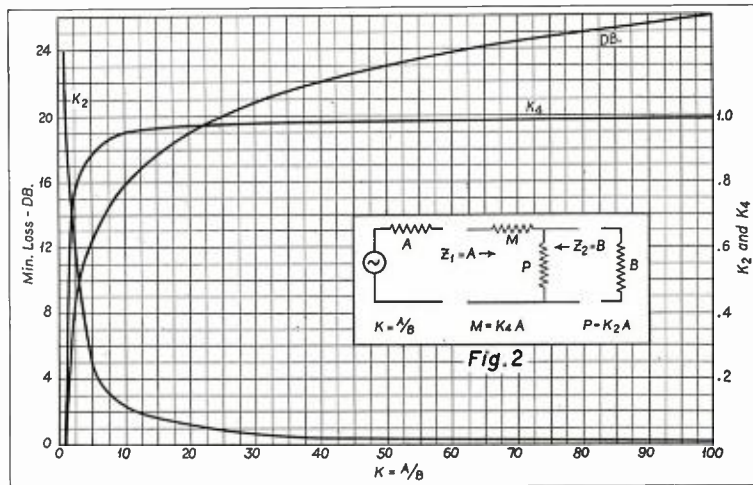

Fig. 2
Needless to say the case of interest is that for the pad of minimum loss, so that λ is fixed by this condition for any value of K, as shown in formula (4). It immediately follows that curves for K₁, K₂, K₃ and K₄ may be plotted as a function of K, or the ratio of generator and terminal impedances. Fig. 2 indicates one set of curves in which M and P are expressed as functions of A. Naturally a similar set of curves may be drawn for K₃ and K₄.